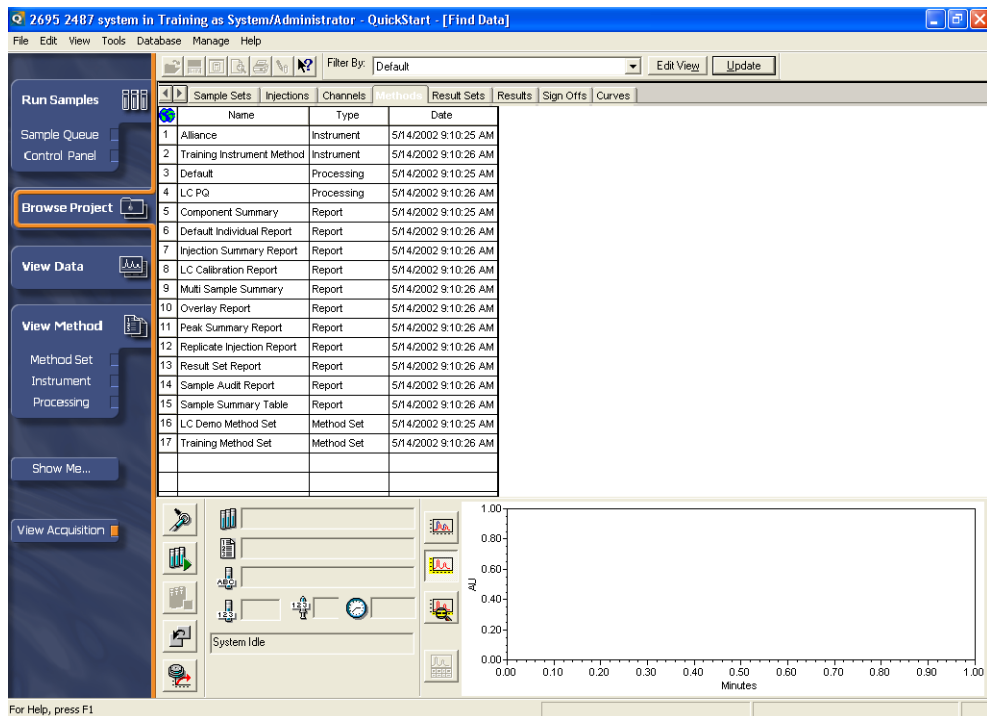

Figure 4-16 Browse Project Window
1. Click **Browse Project** on the navigation bar. The Browse Project window appears (Figure 4-16).